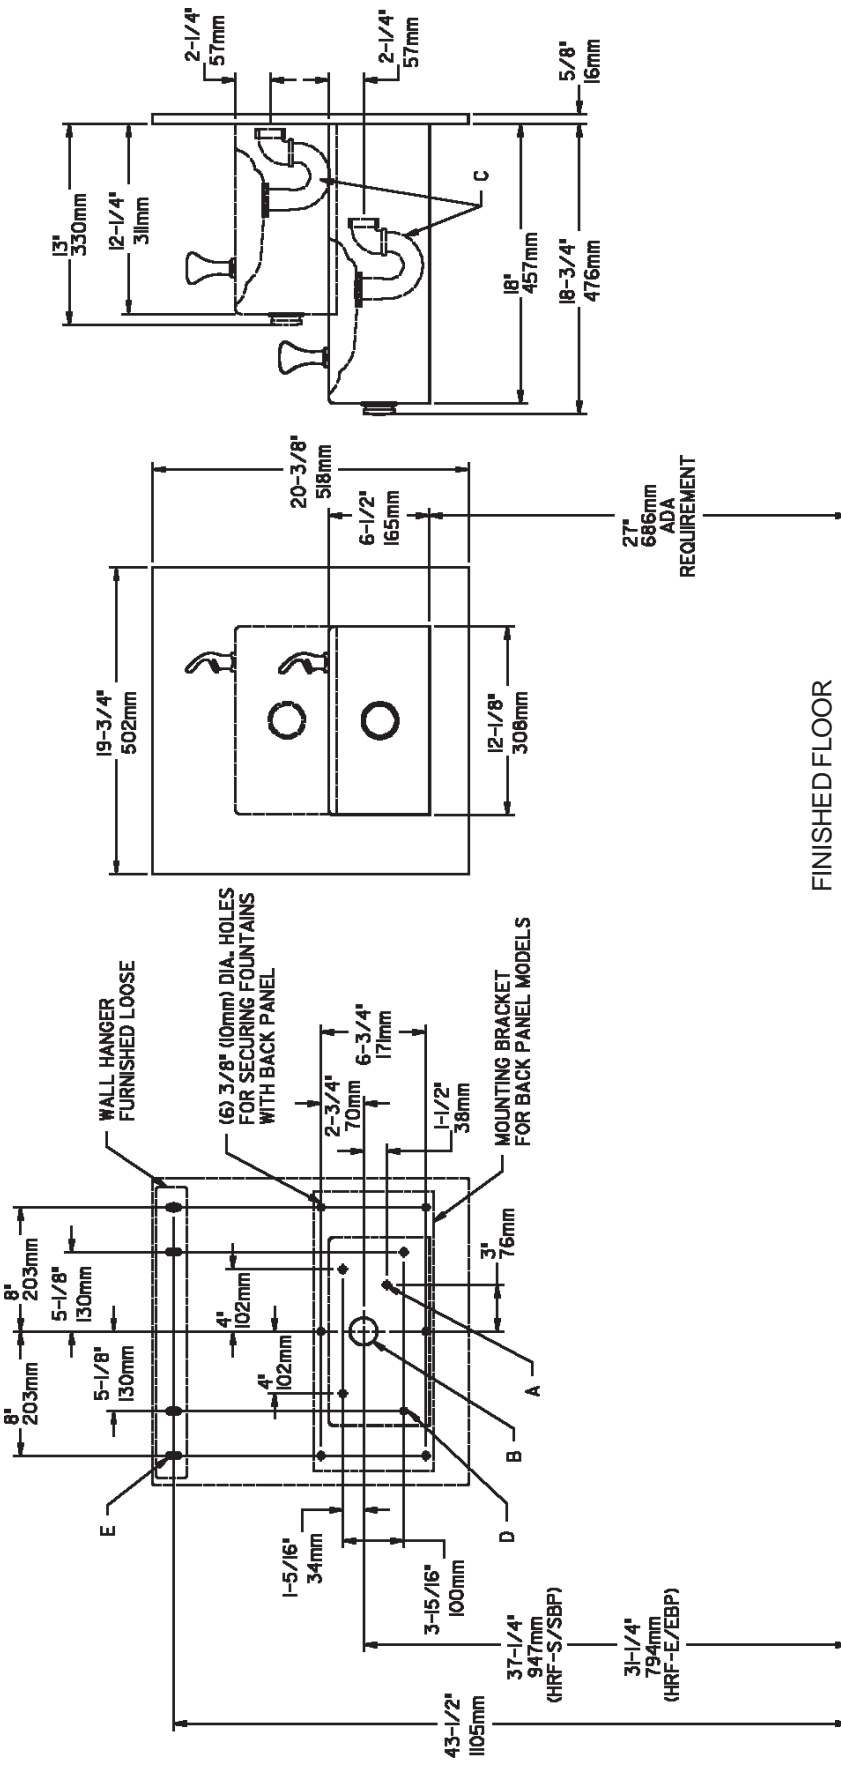

FIG. 3
- Wall should already be framed for the fountain** using the positioning dimensions shown in Fig. 3. Shown dimension pertain to installation location (framing must support up to 150 lbs. weight). These dimensions are required for compliance with ANSI Standard A117.0.
- Install rough-in plumbing** as shown in Fig. 3. Waste line should extend a minimum of 2" (51mm) thru the back panel. Run supply water inlet line thru back panel. Install a service stop (not provided). Turn on supply water and flush thoroughly.
- Remove bottom access panel** from fountain basin and save the screws. Install the fountain to the back panel and wall using (4) 5/16" x 2" lag bolts and washers (not provided) thru holes in back panel. Tighten securely.